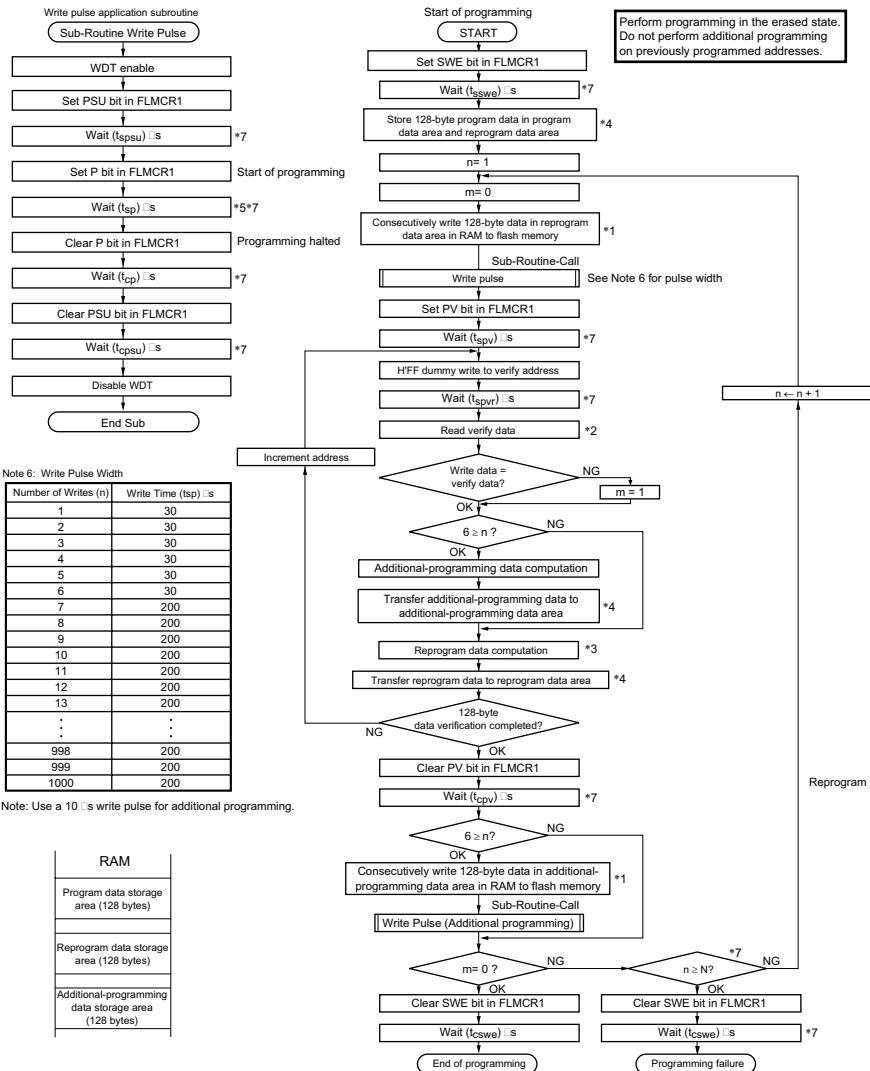

Figure 18.10 Program/Program-Verify Flowchart (128-Byte Programming)
When writing data or programs to flash memory, the program/program-verify flowchart shown in figure 18.10 should be followed. Performing programming operations according to this flowchart will enable data or programs to be written to flash memory without subjecting the device to voltage stress or sacrificing program data reliability. Programming should be carried out 128 bytes at a time.
After the elapse of the given programming time, clear the P bit in FLMCR1, then wait for at least (t_{cp}) μ s before clearing the PSU bit to exit program mode. After exiting program mode, the watchdog timer setting is also cleared. The operating mode is then switched to program-verify mode by setting the PV bit in FLMCR1. Before reading in program-verify mode, a dummy write of H'FF data should be made to the addresses to be read. The dummy write should be executed after the elapse of (t_{spv}) μ s or more. When the flash memory is read in this state (verify data is read in 16-bit units), the data at the latched address is read. Wait at least (t_{spvr}) μ s after the dummy write before performing this read operation. Next, the originally written data is compared with the verify data, and reprogram data is computed (see figure 18.10) and transferred to RAM. After verification of 128 bytes of data has been completed, exit program-verify mode, wait for at least (t_{cpv}) μ s, then clear the SWE bit in FLMCR1. If reprogramming is necessary, set program mode again, and repeat the program/program-verify sequence as before. The maximum number of repetitions of the program/program-verify sequence is indicated by the maximum programming count (N). Leave a wait time of at least (t_{cswe}) μ s after clearing SWE.
6. The program/program-verify flowchart for the H8/3028F-ZTAT is shown in figure 18.10. To cover the points noted above, bits on which reprogramming processing is to be executed, and bits on which additional programming is to be executed, must be determined as shown below.